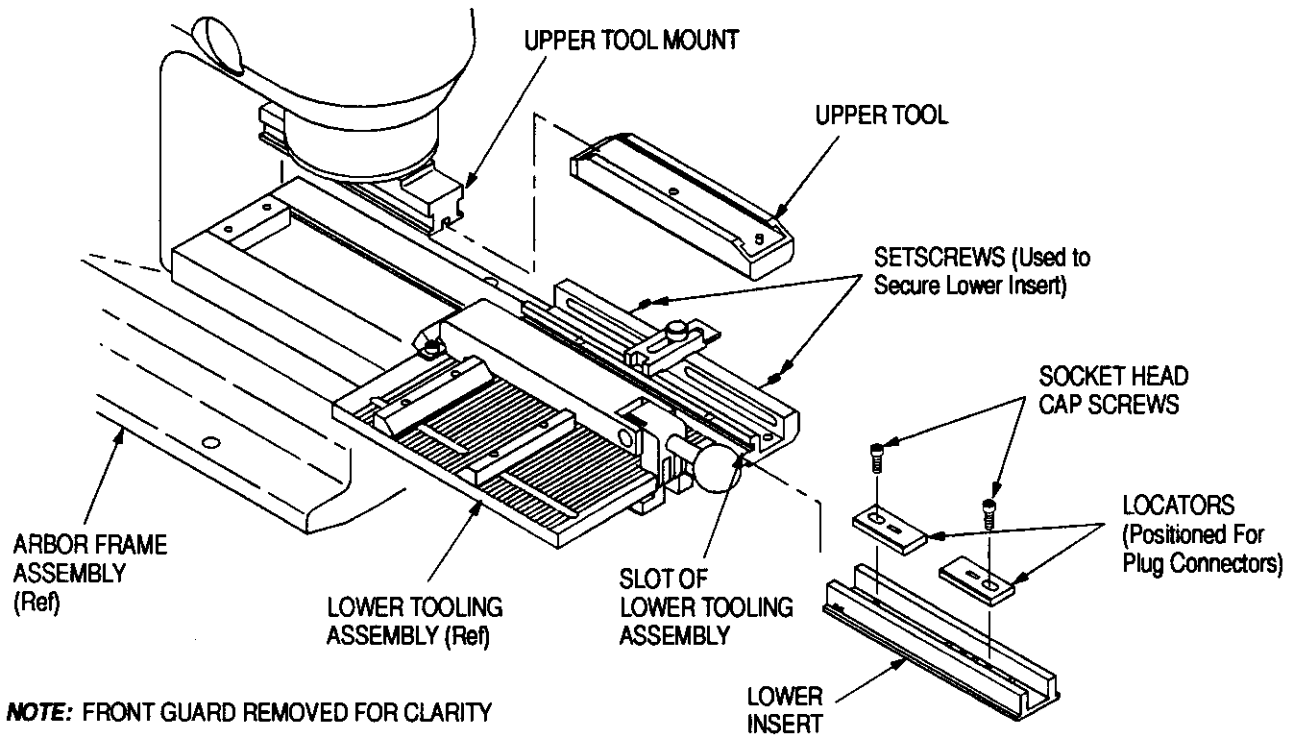
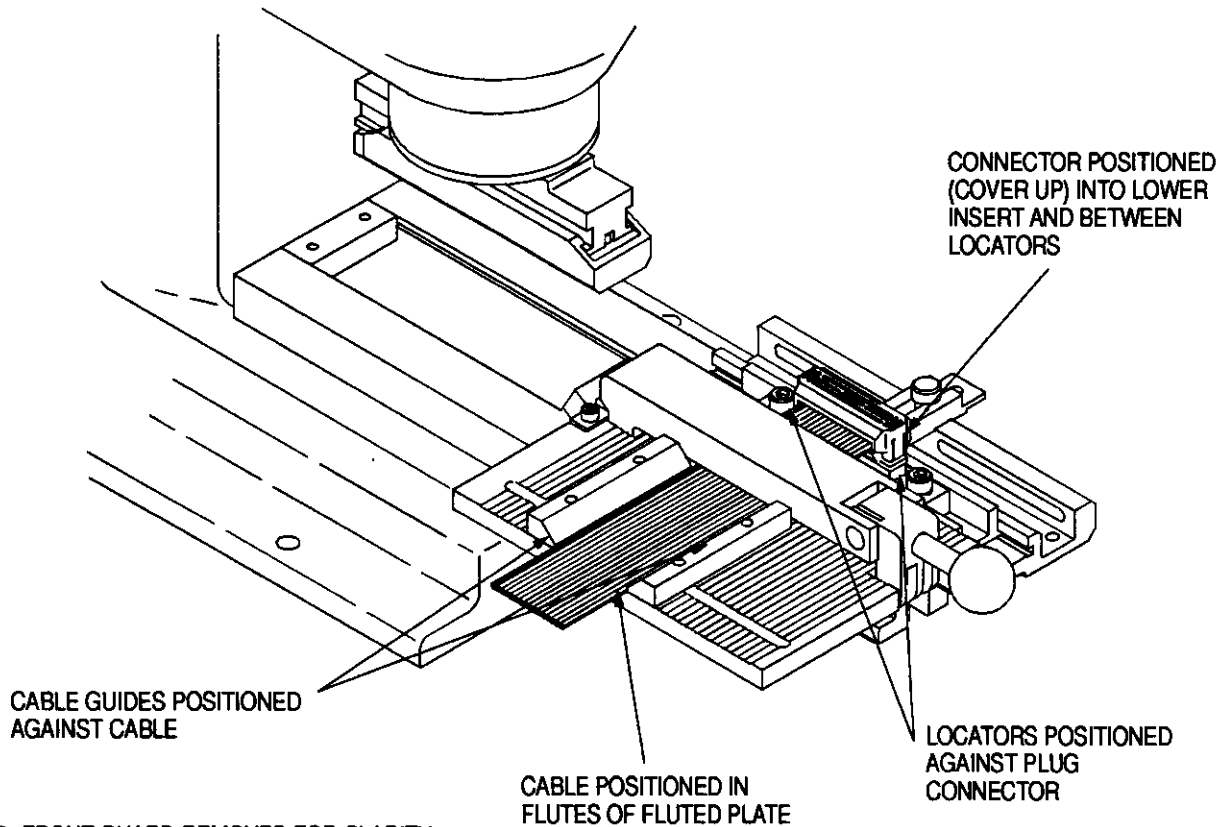

Figure 3
Figure 4
- Slide upper tool onto upper tool mount, as shown in Figure 3.
- Slide lower insert into the slot of the lower tooling assembly. Insert a .38 [.015] feeler gage into the slot and position it against the pin. Slide the lower insert into the slot until it is positioned against the gage. When the lower insert is properly positioned, secure it with the two setscrews. See Figure 3.
- Install the locators onto the tooling and secure them with the socket head cap screws, just enough to hold them in place. See Figure 3. Refer to Figure 4 for details.
- Slide cable through the connector; then insert connector (cover up) into the lower insert and between the locators. See Figure 4.
- Slide locators against the connector; then secure the locators with the socket head cap screws. The connector must fit securely between the locators, as shown in Figure 4.